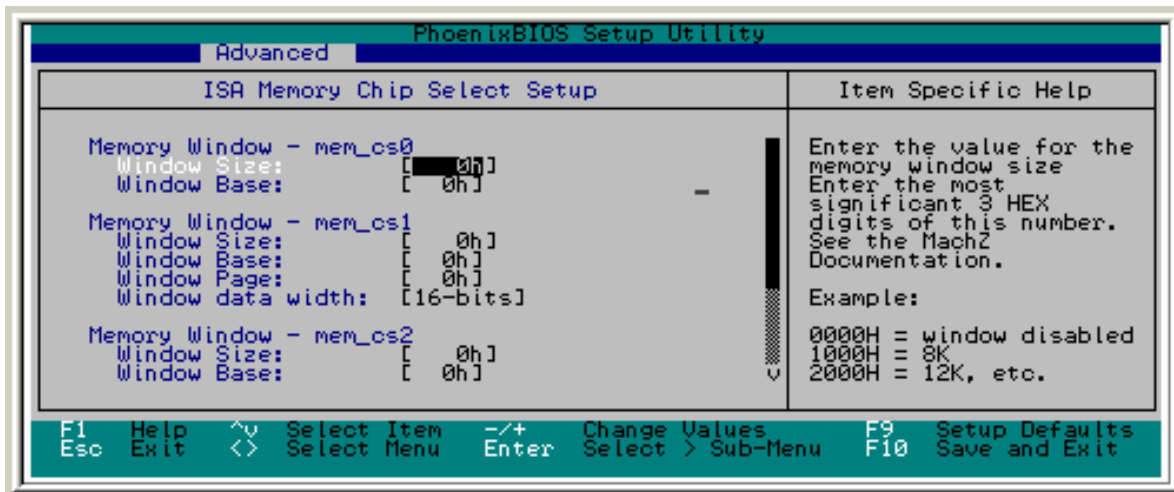

Figure 1. ISA Memory Chip Select Setup Menu
1. Invoke the Linux Loader using the special option-ROM scan routine, which gains control just before normal boot process and scans the memory window mem_cs0 settings defined in PhoenixBIOS Setup Utility > Advanced > Advanced Chipset Control > ISA Memory Chip Select Setup menu. See Figure 1.